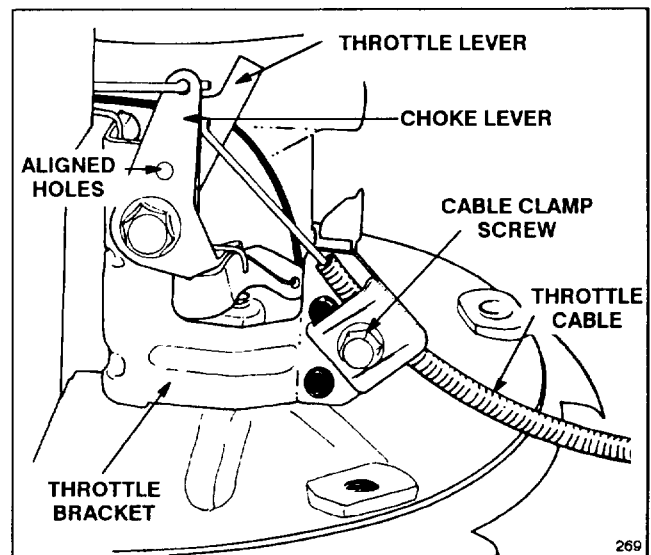

Figure 20
- 3. Loosen cable clamp screw until throttle cable slides (Fig. 20).
- 4. Check to see if holes in throttle lever and choke lever are aligned (Fig. 20). If not, follow adjustment procedure in step 5.
- 5. ADJUSTMENT—A small diameter pin may be inserted into aligned holes to hold adjustment. Push throttle cable until throttle lever contacts choke lever (Fig. 20). Tighten cable clamp screw. Remove pin if used.